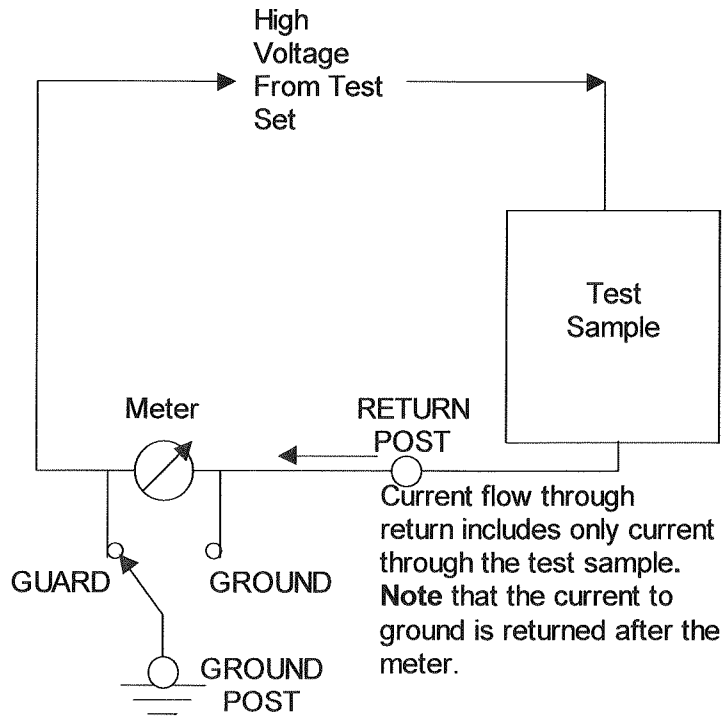

Figure 3, Guarded Return Diagram
2. **Guarded Return-** With the output return in the guarded mode, the current meter will only read currents through the test sample. The test sample must be isolated from ground on the low side as shown in Figure 3 below.